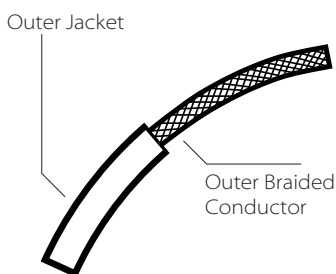

Fig. 1
1. Shut off power to the outlet box (D).
2. Assemble the pendant body (Fig. 1):
- a. Connect the electrical plugs from one End Luminaire (A) to the plugs from one Connecting Arm (B) of the fixture body.
- b. Insert End Luminaire and Center Luminaire to the Connecting Arm, and secure with two screws (C) on each side.
3. Make appropriate electrical connections to the power supply (E) using wire nuts:
- c. Connect outlet box ground wire (green or uncoated) to the mounting plate (M) using the green screw.
4. Place the power supply and any loose cable or cord inside the outlet box (D).
1. Make a 1" slice along the length of the cord's outer jacket (Fig. 1).
2. Carefully strip the outer jacket of the cord and keep the outer braided conductors intact (Fig. 1).